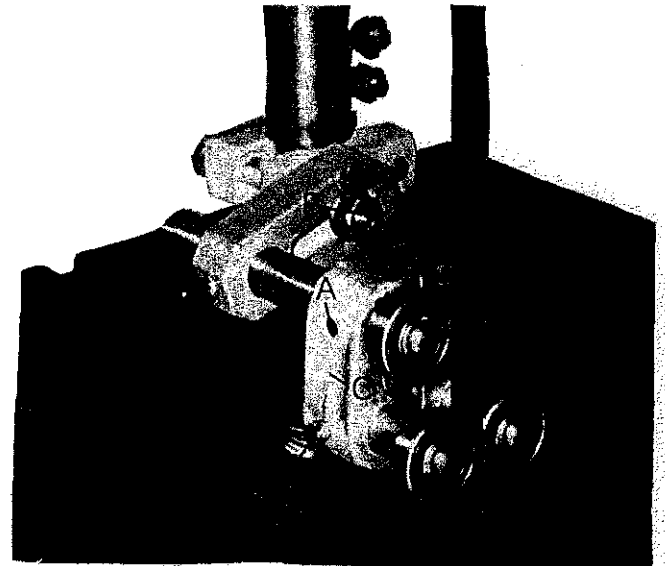
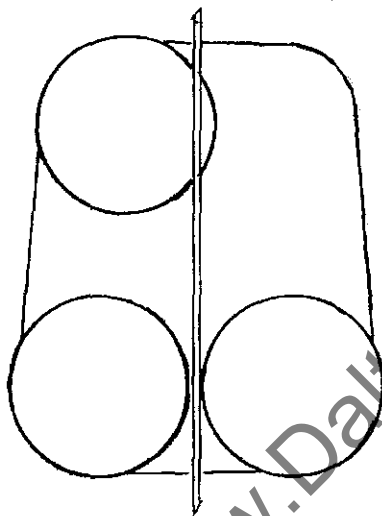
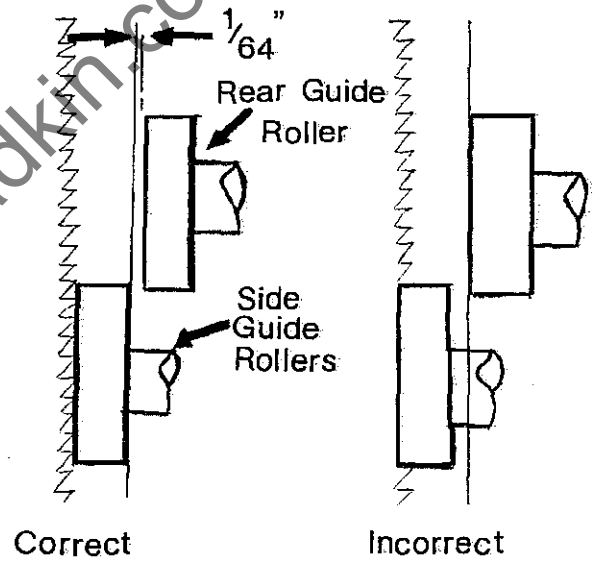

FIG 12
FIG 13
FIG 14
A sawguide unit "A", FIG.12, is fitted above the table and is fully adjustable for adequate sawblade support. The unit is fitted with ~~TEFLON~~ support blocks and a long life bearing.
3. Loosen grubscrew "A" and M10 nut "B", FIG.12. then position guide body "C" central and parallel to blade SEE FIG.13, then tighten up grubscrew "A" and M10 nut "B", FIG.12.
4. Slacken thumb screw "Y" FIG.12, and set rear guide roller $1/64$ " clear of back of blade, lock up thumb screw "Y".
5. Slacken thumb screws "X" FIG.12, and move side guide foreward as positioned in FIG.14, then pivot side guide rollers on anti lock eccentrics just clear of blade FIG.13, and lock thumb screws "X".